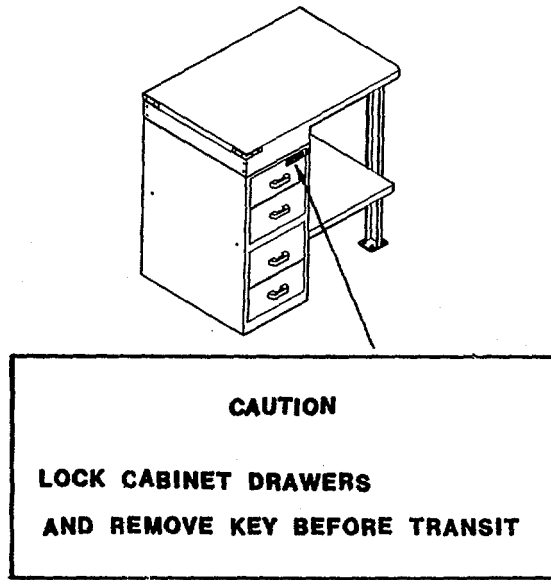

Figure 2-23. Drawer Table Decals
- f. Drawer Table. Figure 2-23 identifies decals for the drawer table.